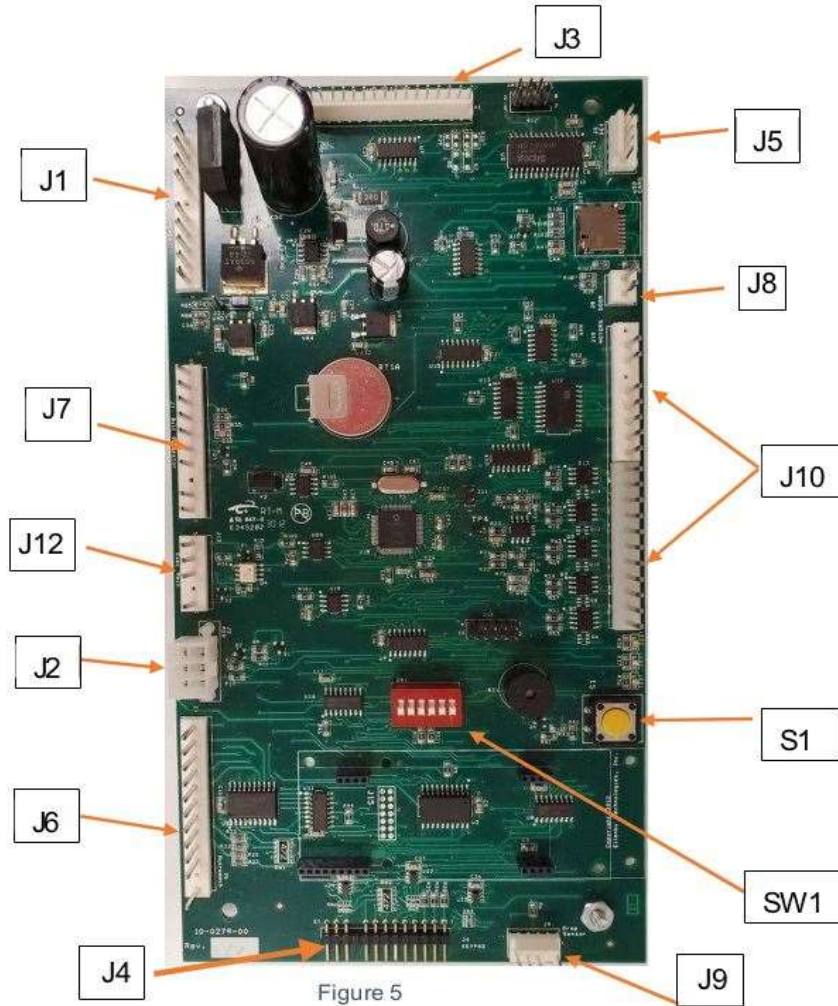

Figure 5
8. Since this controller supports multiple keypad layouts, switch 3 is used to tell the controller what keypad to support. Make sure switch 3 on the controller is set for OFF (down) for Snack Mart 3 (13-pin keypad) installations or ON (up) for Snack Mart 6 (11-pin keypad) installations. See SW1 on Figure 5